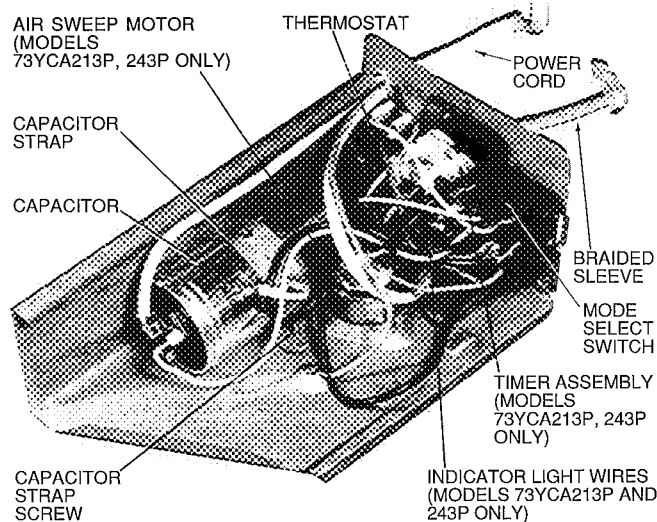

Fig. 9 – Control Box Components
8. On right side and bottom of control box, manually disengage removable sheet metal panel to access control box components. See Fig. 8. See Fig. 9 for control box components.
Mode Switch Control Removal (See Fig. 9 and 10)
2. Carefully disconnect wires from timer assembly (Fig. 9). Label wires to aid in reassembly
3. Remove screw fastening capacitor strap to control box and remove strap. (See Fig. 9, 10 and 12.)
2. Carefully disconnect indicator light wires (Fig. 9 and 13) from termination connections. Label wires to aid in reassembly.
2. Carefully disconnect air sweep motor (Fig. 9) wire terminations.